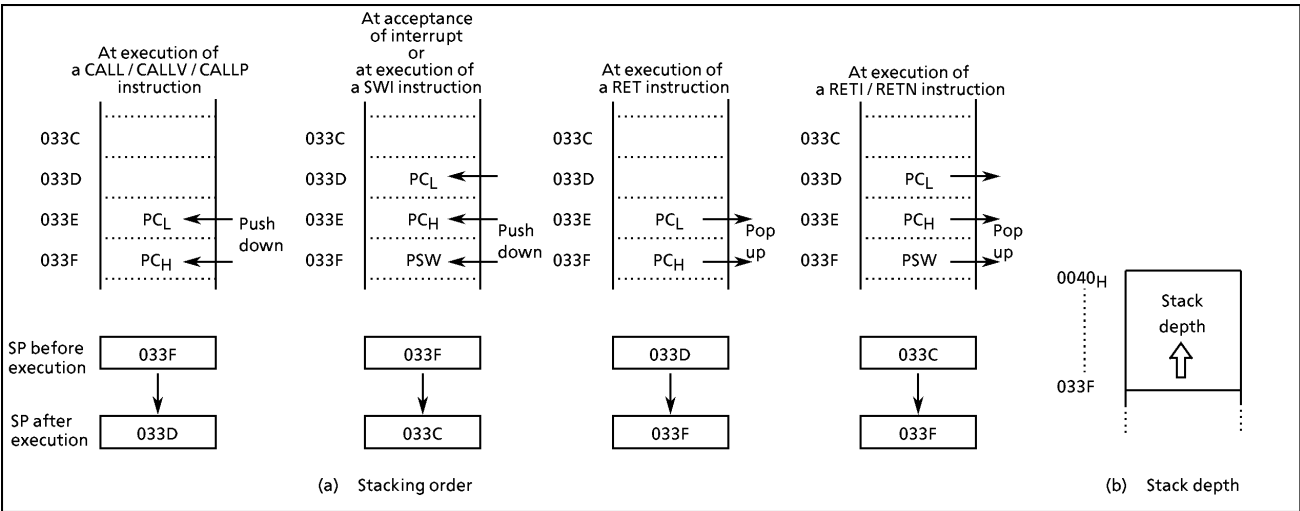

Figure 1-8. Stack
1.7.2 Stack Pointer (SP)
The stack pointer (SP) is a 16 bit register containing the address of the next free locations on the stack. The SP is post-decremented when a subroutine call or a push instruction is executed, or when an interrupt is accepted ; and the SP is pre-incremented when a return or a pop instruction is executed. Figure 1-8. shows the stacking order.